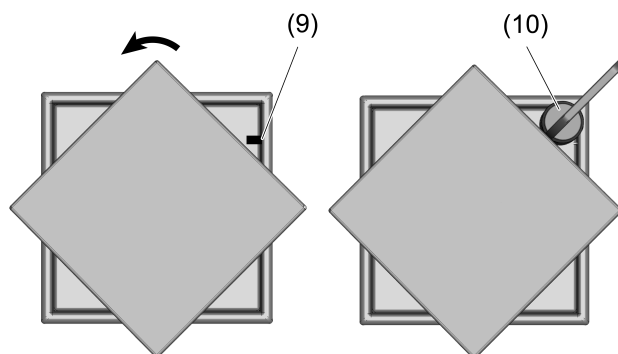

Figure 6: Dismantling a light attachment
- Rotate the light attachment by 45° to expose the marking (9) (Figure 6).
- Place the magnet (10) at the level of the marking (9) on the cover until a click is heard.